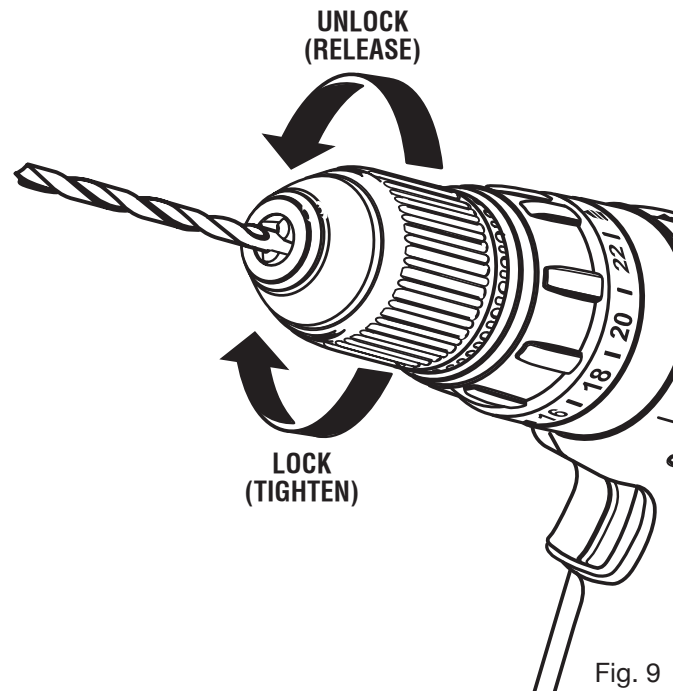

Fig. 9
See Figure 9.
- Insert drill bit straight into chuck the full length of the jaws as shown in figure 9.